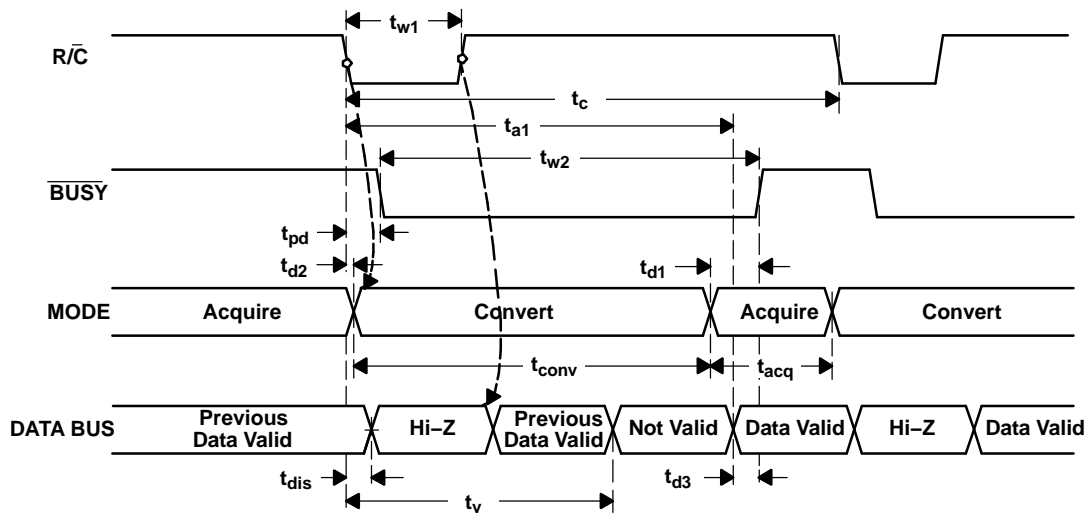
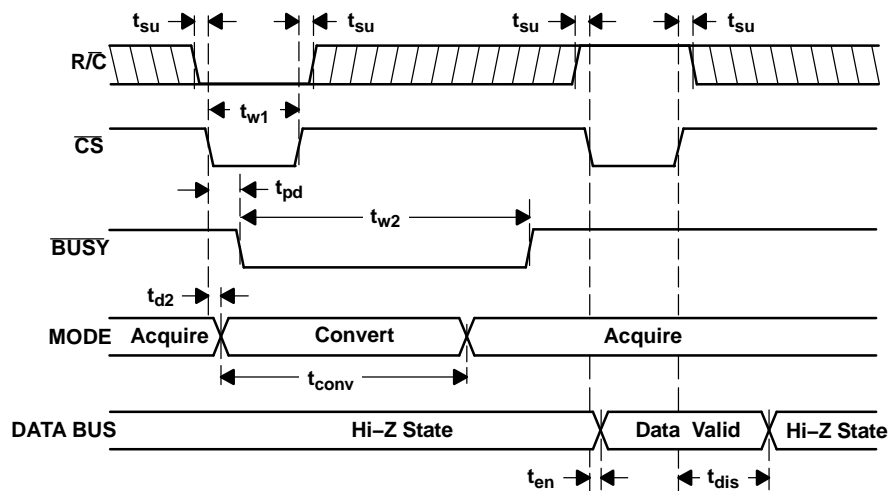
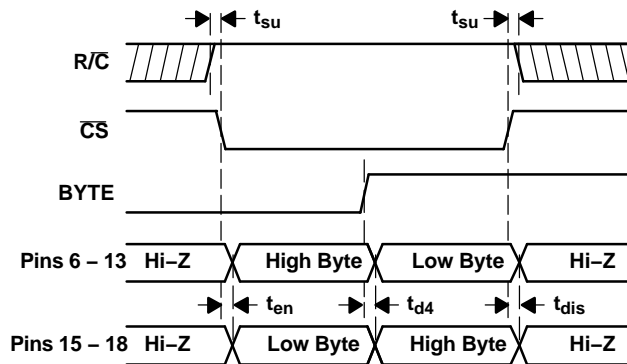

Figure 19. Conversion Timing with Outputs Enabled after Conversion (\overline{CS} Tied Low)
Figure 20. Using \overline{CS} to Control Conversion and Read Timing
Figure 21. Using $\overline{\text{CS}}$ and BYTE to Control Data Bus
The ADS8504 begins tracking the input signal at the end of the conversion. Allowing 4 μ s between convert commands assures accurate acquisition of a new signal. Refer to Table 1 for a summary of \overline{CS} , $\overline{R/C}$, and \overline{BUSY} states and Figure 19, Figure 20, and Figure 21 for the timing diagrams.
(1) See Figure 19 and Figure 20 for constraints on data valid from conversion $n-1$.
After conversion *n* is completed and the output registers have been updated, $\overline{\text{BUSY}}$ (pin 26) goes high. Valid data from conversion *n* is available on D11-D0 (pins 6-13 and 15-18). $\overline{\text{BUSY}}$ going high can be used to latch the data. Refer to Table 3 and Figure 19, Figure 20, and Figure 21 for timing specifications.
After conversion *n* has been initiated, valid data from conversion *n-1* can be read and is valid up to t_2 (2.2 μs typ) after the start of conversion *n*. Do not attempt to read data from t_2 (2.2 μs typ) after the start of conversion *n* until $\overline{\text{BUSY}}$ (pin 26) goes high; this may result in reading invalid data. Refer to Table 3 and Figure 19, Figure 20, and Figure 21 for timing specifications.
The number of control lines can be reduced by tying $\overline{\text{CS}}$ low while using the falling edge of $\overline{\text{R}/\overline{\text{C}}}$ to initiate conversions and the rising edge of $\overline{\text{R}/\overline{\text{C}}}$ to activate the output mode of the converter. See Figure 19.